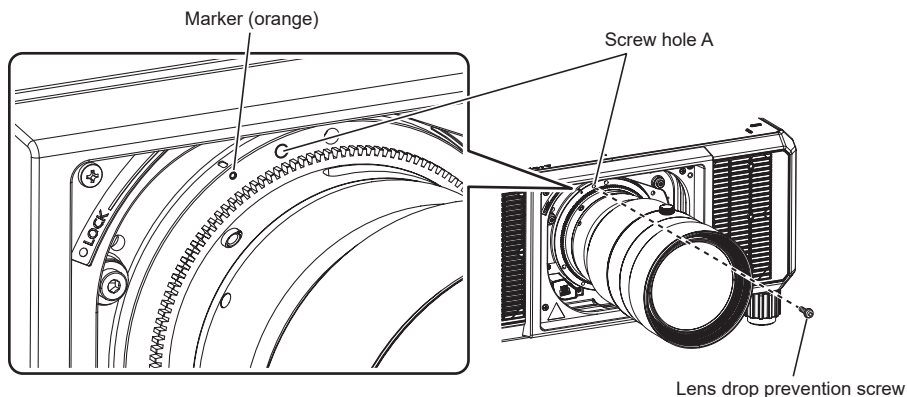

Fig 4
- 4) Use the lens drop prevention screw supplied with the projector to secure the projection lens (Fig 4).